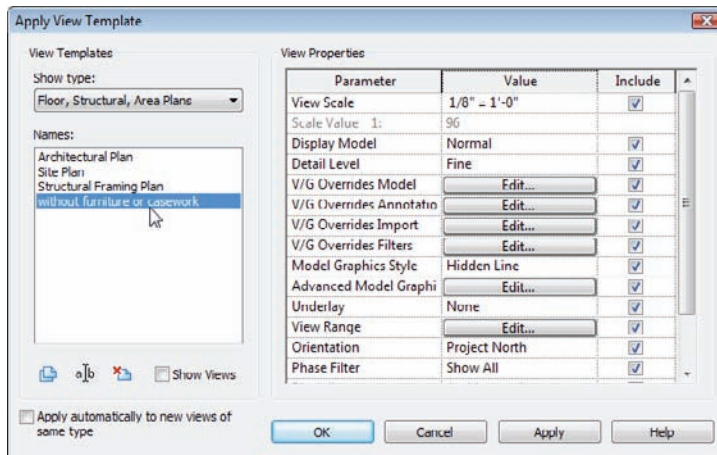

FIGURE 13.14 Selecting the Without Furniture or Casework template
7. In the View Template dialog, select the Without Furniture Or Casework template, as shown in Figure 13.14.